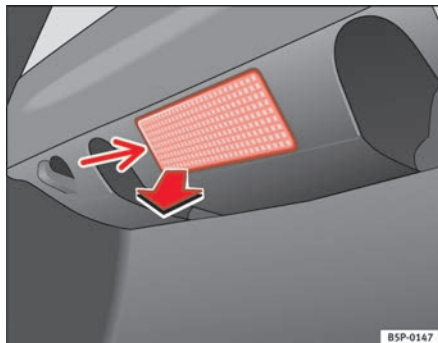

Fig. 160 Luggage compartment light
- Extract the tulip shaped fitting by pressing on the inside edge of this -arrow- using the flat side of a screwdriver ⇒ fig. 160.